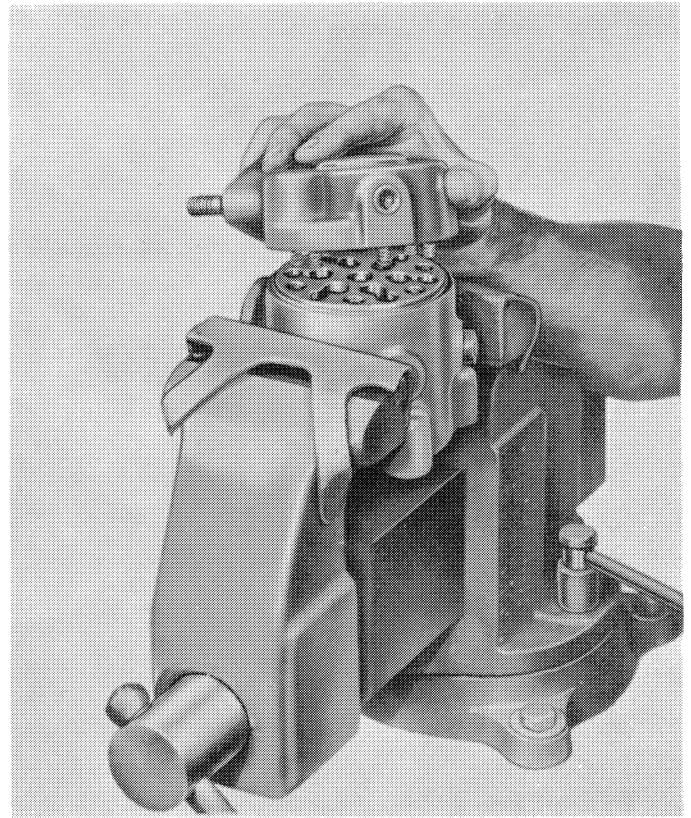

Figure 34—Installing Pump Cover
10. Carefully position the cover on the body as shown in Figure 34. Check the alignment of all springs, then secure the cover with the six attaching bolts. Tighten the bolts evenly and alternately to 40-50 ft. lbs. torque.